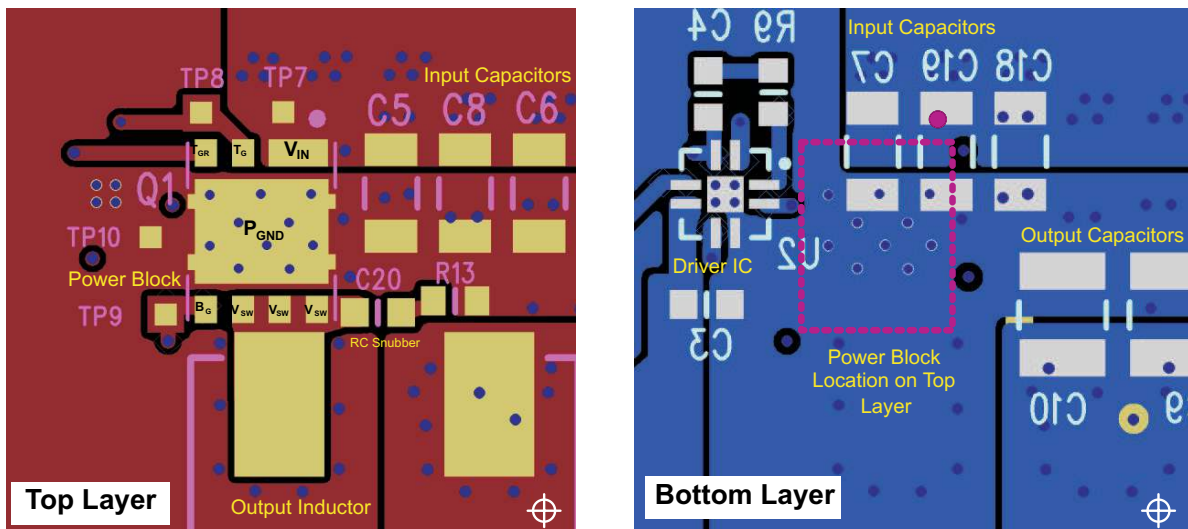

Figure 34. Recommended PCB Layout (Top View)
- The placement of the input capacitors relative to the power block's VIN and PGND pins should have the highest priority during the component placement routine. It is critical to minimize these node lengths. As such, ceramic input capacitors need to be placed as close as possible to the VIN and PGND pins (see Figure 34). The example in Figure 34 uses 6 × 10-μF ceramic capacitors (TDK Part C3216X5R1C106KT or equivalent). Notice there are ceramic capacitors on both sides of the board with an appropriate amount of vias interconnecting both layers. In terms of priority of placement next to the power block, C5, C7, C19, and C8 should follow in order.
- In the event the switch node waveform exhibits ringing that reaches undesirable levels, the use of a boost resistor or RC snubber can be an effective way to reduce the peak ring level. The recommended boost resistor value will range between 1 Ω to 4.7 Ω depending on the output characteristics of driver IC used in conjunction with the power block. The RC snubber values can range from 0.5 Ω to 2.2 Ω for the R and 330 pF to 2200 pF for the C. Refer to Snubber Circuits: Theory, Design and Application (SLUP100) for more details on how to properly tune the RC snubber values. The RC snubber should be placed as close as possible to the Vsw node and PGND see Figure 34. (1)
- Use the smallest drill size allowed in your design. The example in Figure 34 uses vias with a 10-mil drill hole and a 16-mil capture pad.